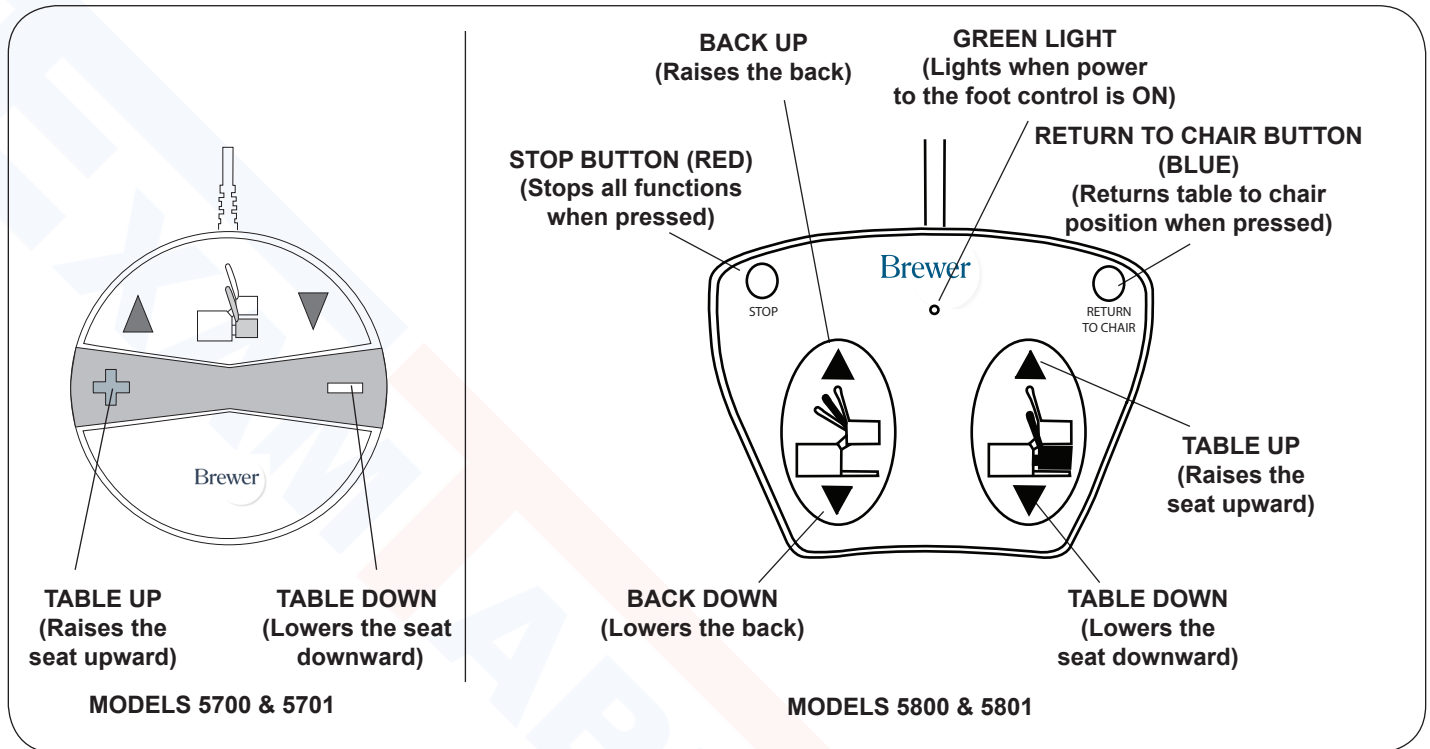
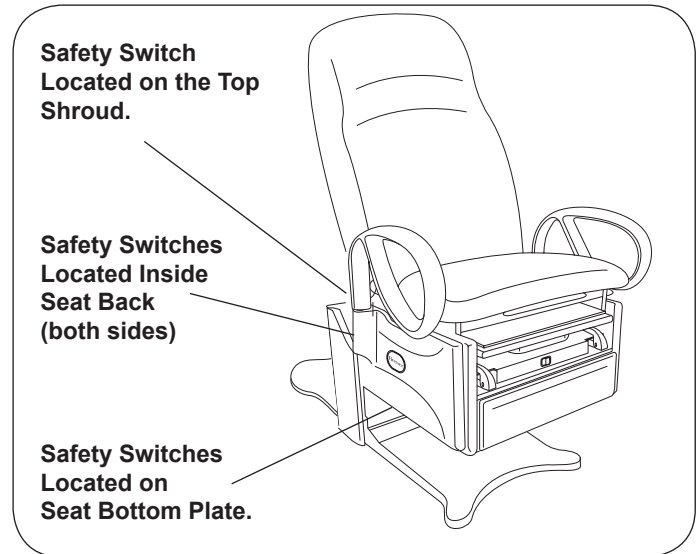

Figure 21. Foot Controls
Figure 22. Seat and Backrest Safety Switches
All models are equipped with switches on the seat bottom (Figure 22) which automatically stops the lowering function of the seat if any of the switches comes into contact with an object as the seat is lowering. To continue lowering the seat, press up on the "TABLE UP" pedal (Figure 21), clear the obstruction, and continue lowering the seat.
All models are equipped with a switch on the top shroud (Figure 22) which automatically stops the lowering function of the seat and back if the switch is contacted by the backrest. To continue lowering the seat:
- **Models 5800 & 5801** - Depress the "BACK UP" pedal (Figure 21) to clear the switch. When clear of the switch continue lowering the seat.